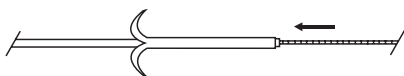

Fig. 2
b) With catheter tip straight, advance the catheter over the wire guide. (**Fig. 2**)